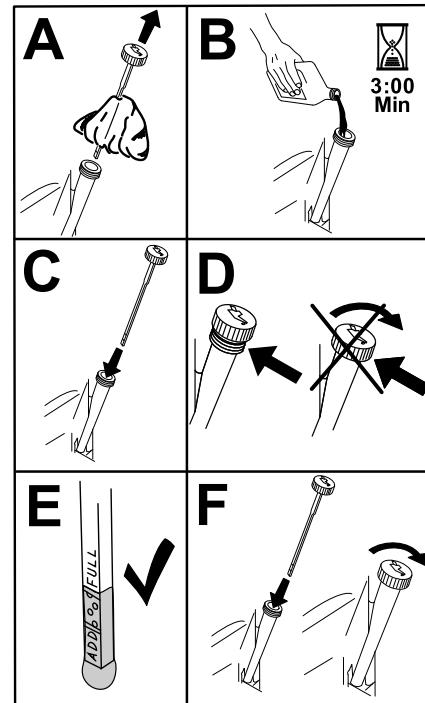

Figure 25
5. Slowly pour approximately 80% of the specified oil into the filler tube and slowly add the additional oil to bring it to the **Full** mark (Figure 25).
3. Fill the crankcase with the proper type of new oil (Figure 25).